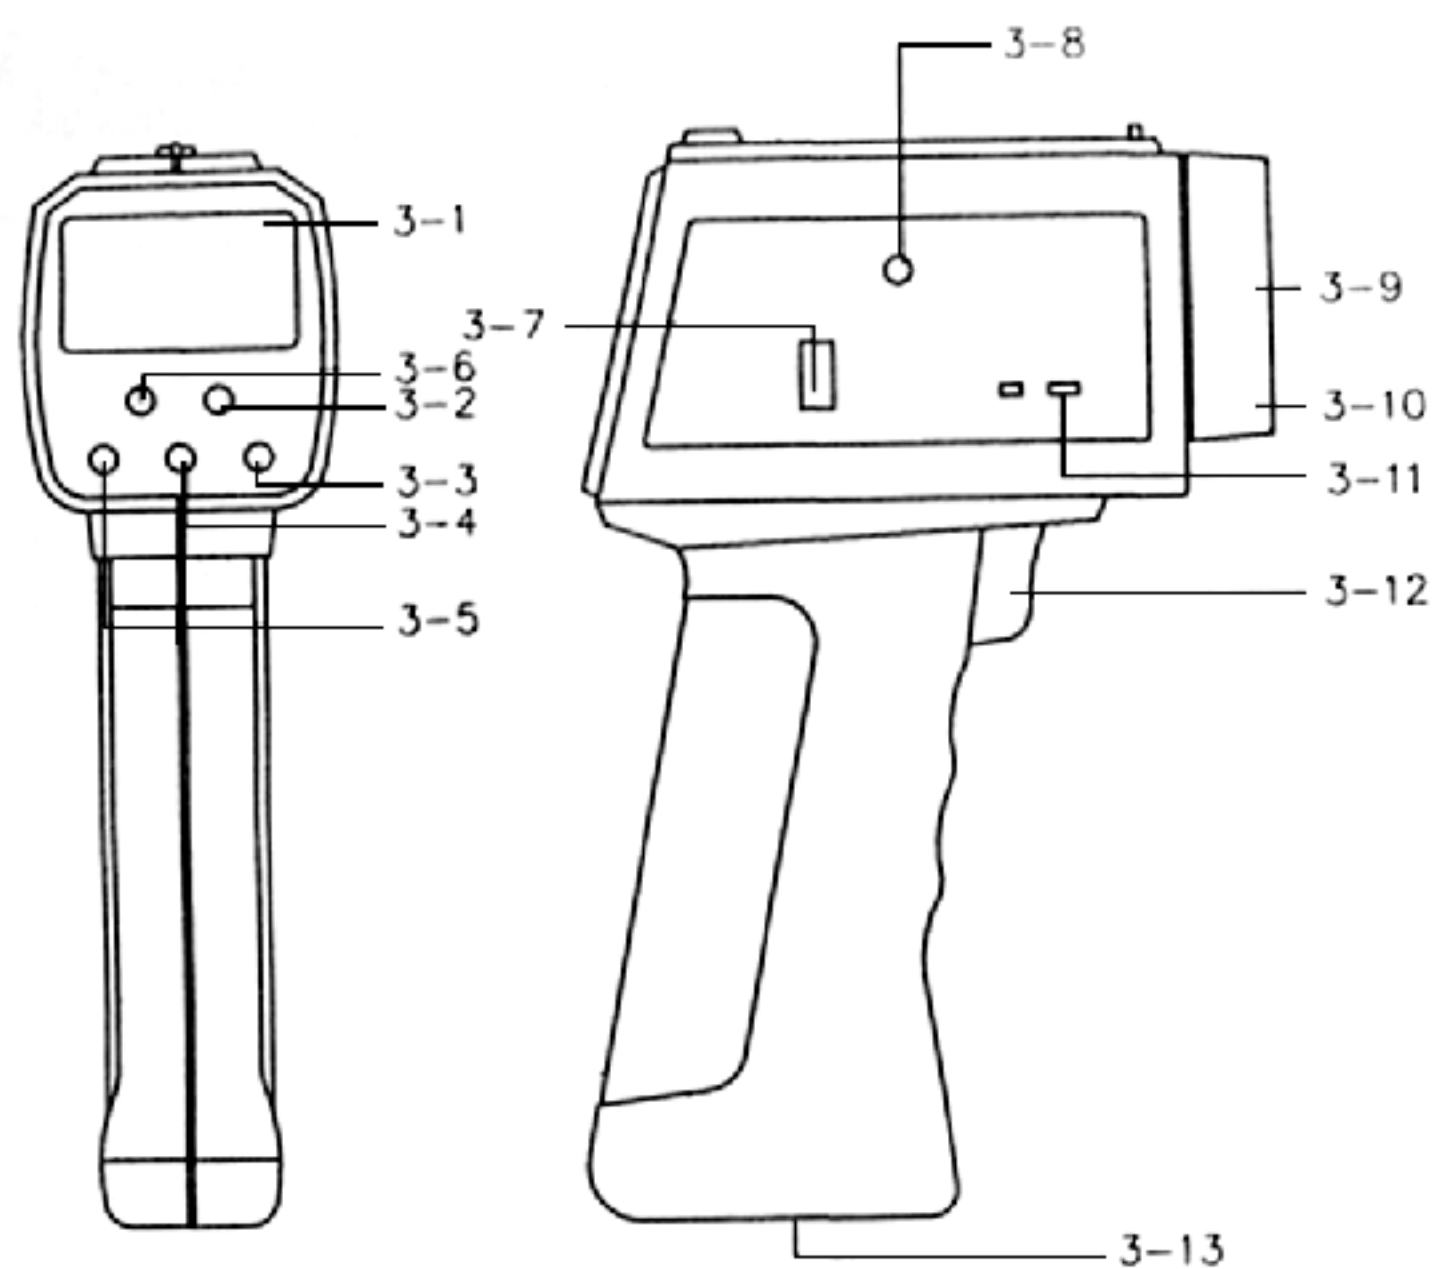

Fig. 1
Power on the meter by pressing the " Operating Switch " (3–12, Fig. 1). The display will show the internal testing code (such as 8L–03..) then zero.
- * After power on, at the same time will activate the target light from the " Target Light Guide " (3–10, Fig. 1) approx. 10 seconds.*
- * During the measurement, if push the " Rec. Button " (3–5, Fig 1), the LCD will show the " REC " marker. The meter will make the measurement continuously and not auto power off.*
- 2) Select the " °C " " °F " display unit by push " °C/°F Button " (3– 2, Fig. 1).
- 3) Point the " IR Sensing Head " (3–9, Fig. 1) to the measuring object. The meter will display the spot's temperature values.
During the IR measurement, push the " Target Light Button " (3–3, Fig. 1) to turn on the LED target light Guide " (3–10, Fig. 1) approx. 10 seconds.
- a) Hold the " Emissivity Button " (3–3, Fig. 1) at least 2 seconds continuously. The emissivity value will flash, release the button.
- b) Use the " Down (Rel.) Button " (3–4, Fig. 1), " Up (°C/°F) Button " (3–2, Fig. 1) to adjust the desired emissivity value.
- 1) During the IR measurement, push " Sensor Button " (3–7, Fig. 1), the display will show the symbol of K.
- 2) Insert the temp. probe plug into the " Thermocouple Input Socket " (3–11, Fig. 1).
- 3) Select the " °C " " °F " display unit by pushing " °C/°F Button " (3–2, Fig. 1).
Insert the temp. probe plug into the " Thermocouple Input Socket " (3–11, Fig. 1). The meter will the room temperature approximately.
- a) Use two fingers to press the " Hold Button " (3–6, Fig. 1) & " REC Button " (3–5, Fig. 1) together & not release. The small digit (right bottom corner of LCD) will show the same value of main LCD (big digit).
- b) Hold on the " Hold Button " & the " REC Button " at the same time. Use the " Down Button " (3–4, Fig. 1), " Up Button " (3–2, Fig. 1) until the required value appear.
- 1) During the measurement, pushing the " Hold Button " (3-6, Fig. 1) will freeze the measured value & the LCD will show " HOLD " symbol.
- 1) The DATA RECORD function displays the maximum and minimum readings. To start the DATA RECORD function, press the " Rec Button " (3-5, Fig. 1) once. " Rec " symbol will appear on the LCD display.
- (a) Push the " Rec Button " (3-5, Fig. 1) once, the " Max " symbol along with the maximum value will appear on the display.
- 1) During a measurement, the circuit will memorize the last measured values. If you push the " REL Button " (3-4, Fig. 1) once the display will show zero value and a " REL " symbol appear on the LCD.